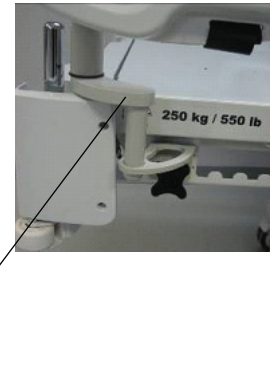

Figure 96: Installing the tray support
4. Install the tray support pole into the bracket (F) and into the socket at the head end or foot end of the product (Figure 96 on page 101).